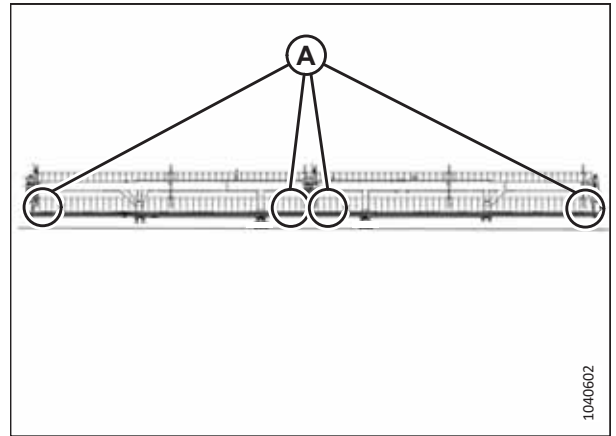

Figure 5.25: Double-Reel Header Measurement Locations
- Figure 5.25, page 205 – double-reel headers